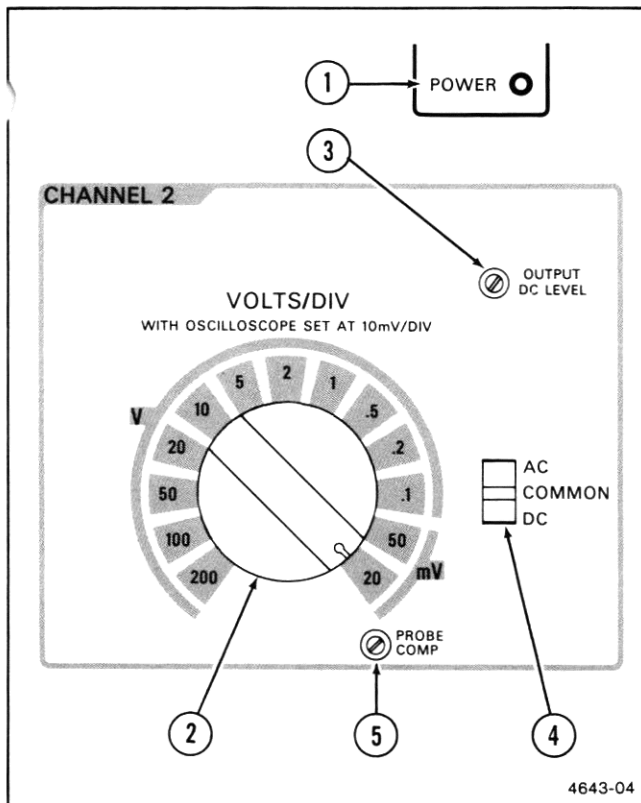

Figure 2-5. Front-panel controls and indicator.
Refer to Figure 2-5 for the location of items 1 through 5.